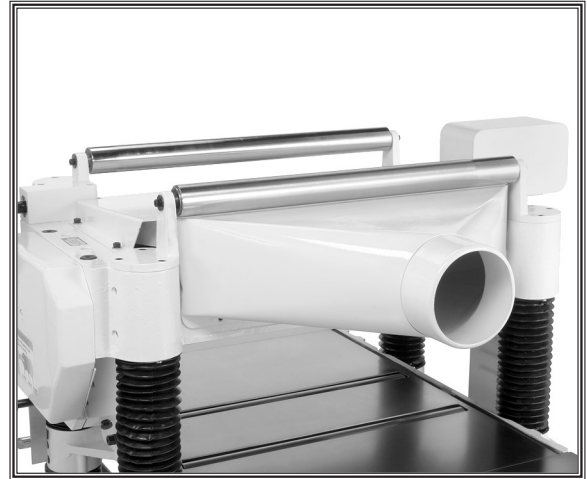

Figure 7. Dust hood attached.
1. Attach the dust hood to the planer with six M6-1 x 12 cap screws and flat washers as shown in Figure 7.